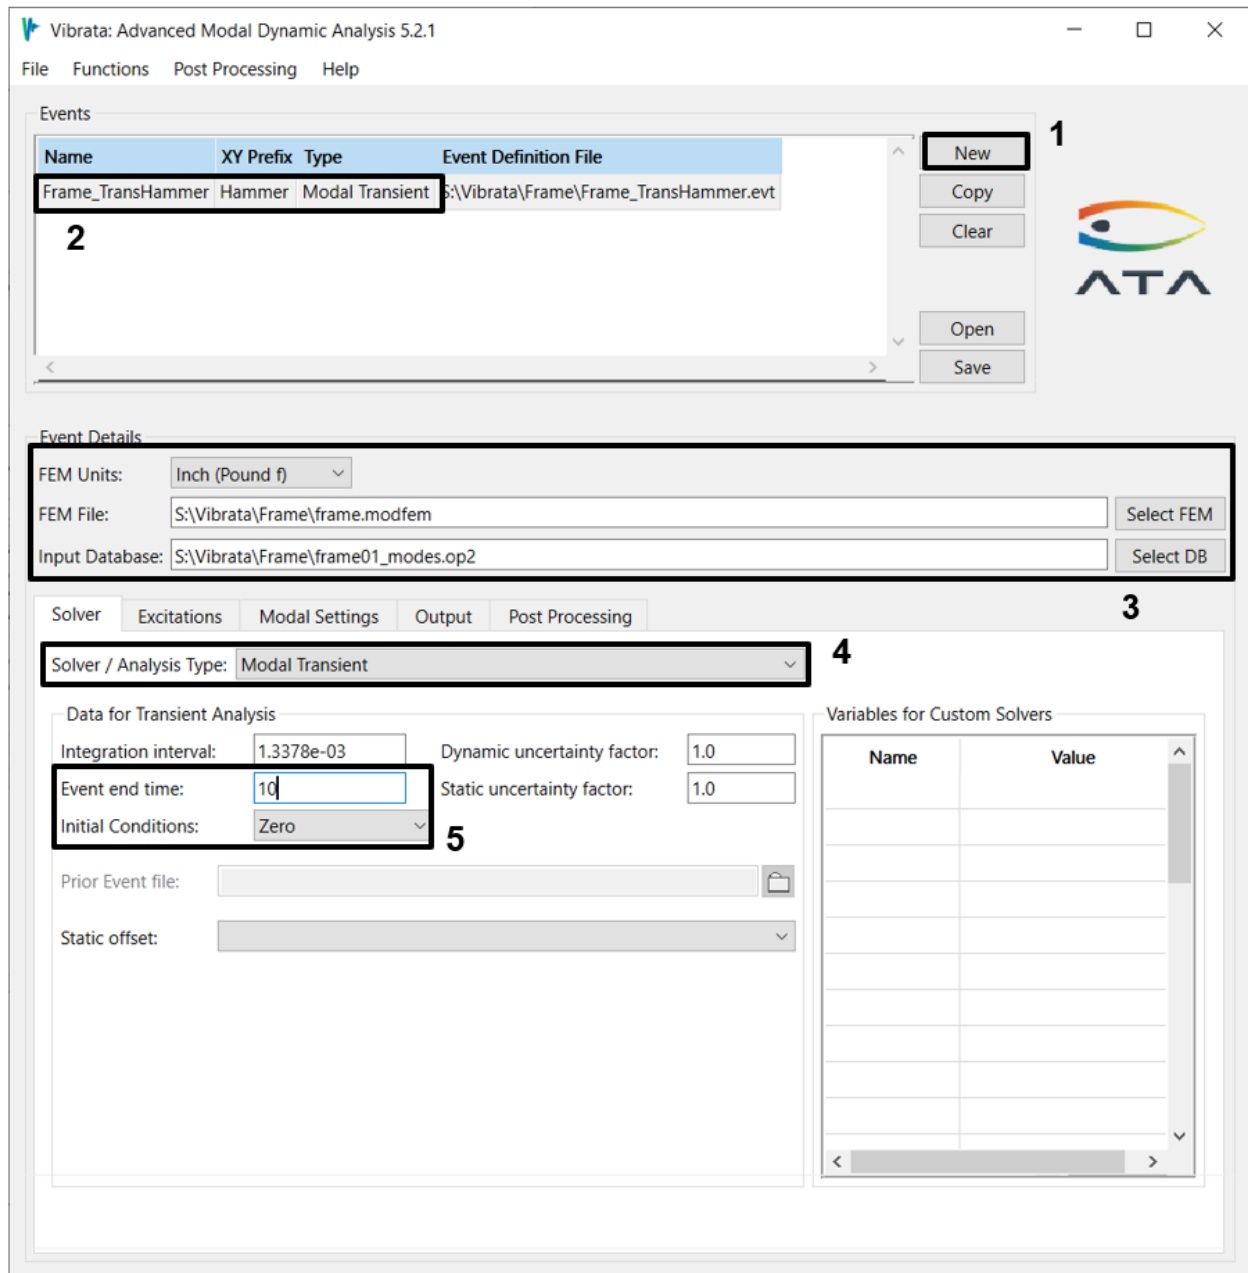

Figure 4-112. Solver setup for frame model transient analysis.
2. In the Event Manager, set up a new transient event and select the frame's modfem file and the OP2 file "frame01_modes.op2". Set the event end time to 10 seconds and its initial conditions to Zero, as shown in Figure 4-112. As always, be sure to assign a recognizable event name.